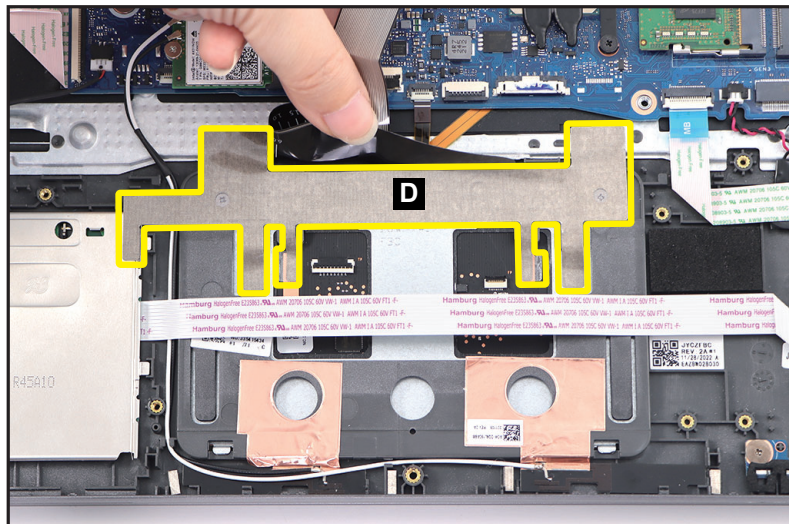

Figure 1-25. Touchpad Module Removal
4. Gently peel off the insulator mylar (D) from the touchpad module (Figure 1-25).